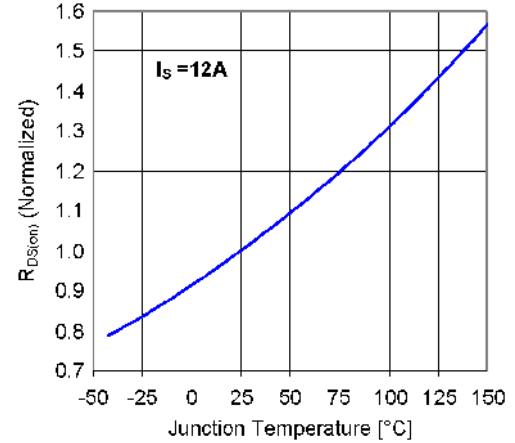

Figure 12: Internal MOSFET on-state resistance vs. temperature
The current trip point is a function of the Low Range Overcurrent Threshold ( $V_{OC\_THL}$ ), the internal MOSFET on resistance ( $R_{DS(on)}$ ) and current sense resistor ( $R_s$ ). To insure that PI2161 will not trip within the expected nominal operating current range, include the variation of  $V_{OC\_THL}$  and  $R_{DS(on)}$  in the calculation when selecting  $R_s$ .  $V_{OC\_THL}$  is 70mV typical, 63mV minimum and 77mV maximum. The  $R_{DS(on)}$  typical value at 25°C is 8.5mΩ and 11mΩ maximum.  $R_{DS(on)}$  will increase with temperature as shown in Figure 12, and can be calculated by multiplying the  $R_{DS(on)}$  value at 25°C by the normalized factor in Figure 12 at the expected operating junction temperature or use the following equation.
*Note: For the worst case condition, calculate with maximum rated  $R_{DS(on)}$  at the MOSFET maximum operating junction temperature because  $R_{DS(on)}$  is temperature dependent. Refer to Figure 12 for normalized  $R_{DS(on)}$  values over temperature. The PI2161 maximum  $R_{DS(on)}$  at 25°C is 11mΩ and will increase by 43% at 125°C junction temperature.*